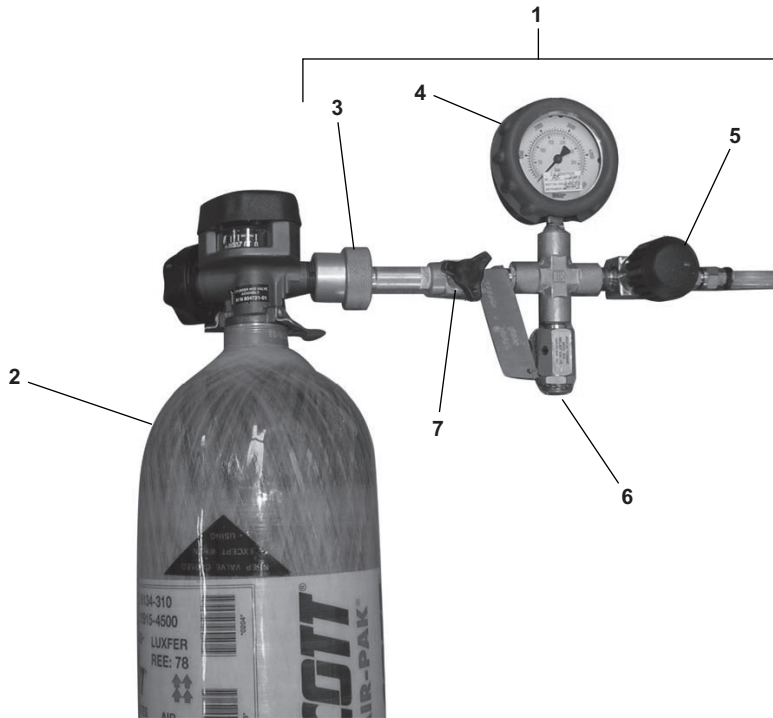

Figure 3-5. Fill Hose Assembly
The E-BAC/SS is equipped with two fill hose assemblies (figure 3-5, item 1) so that two SCBA cylinders (figure 3-5, item 2) can be charged simultaneously. Each fill hose assembly consists of a CGA 347 fitting (figure 3-5, item 3), pressure gauge (figure 3-5, item 4), shutoff valve (figure 3-5, item 5), safety relief valve (figure 3-5, item 6), and a bleed valve (figure 3-5, item 7).